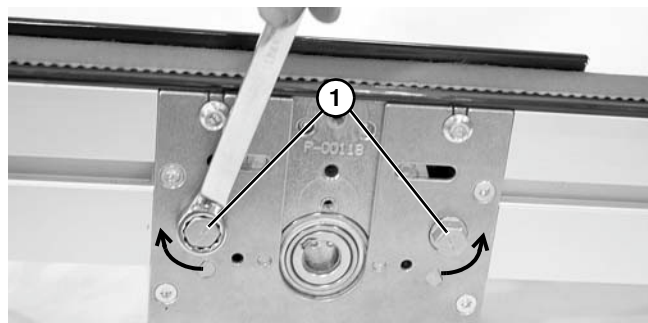

Figure 19
13. Rotate the tensioner cams (**Figure 19, item 1**) in the direction indicated to tension belt.